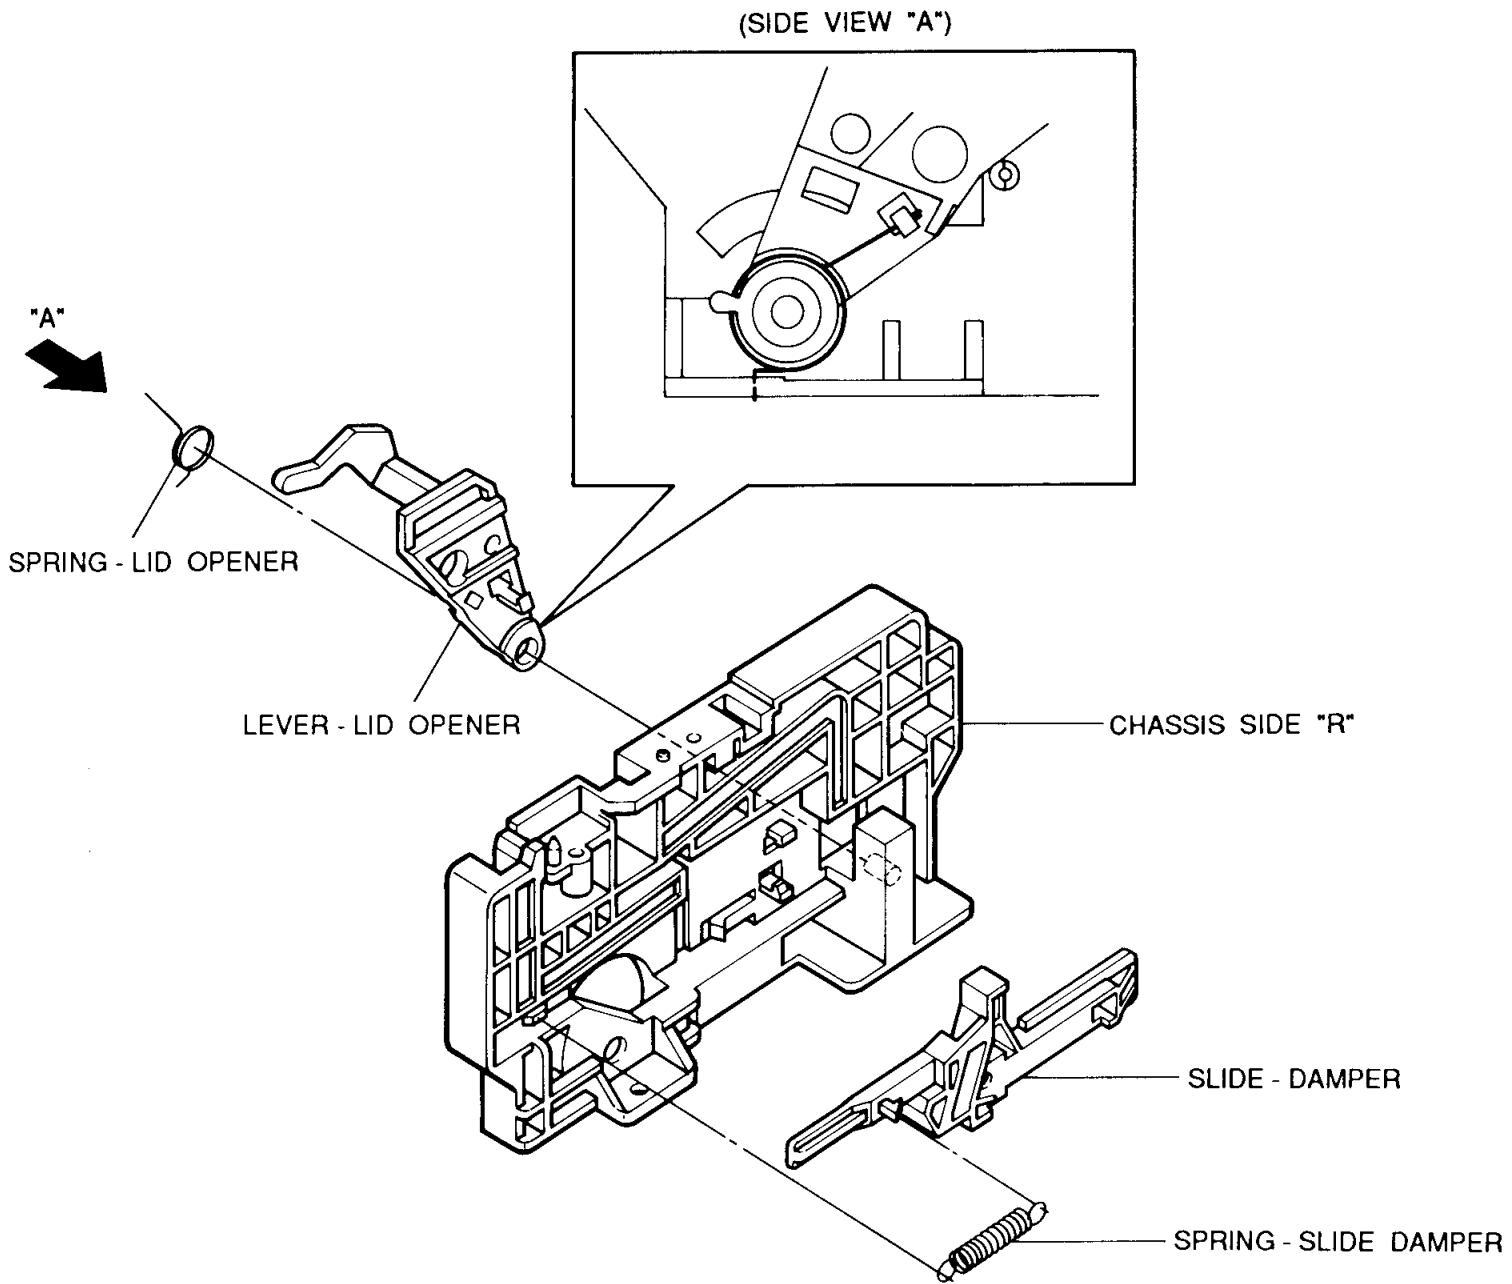

Fig. 16 Chassis Side "R" Parts Locations
- 1) Make sure that phase matching holes of the motor rotor & the cylinder sub ass'y are aligned correctly as shown in Fig. 16 . (Refer to phase matching hole)
- 2) Reinstall the retainer lever ass'y ② and secure with two(2) screws.